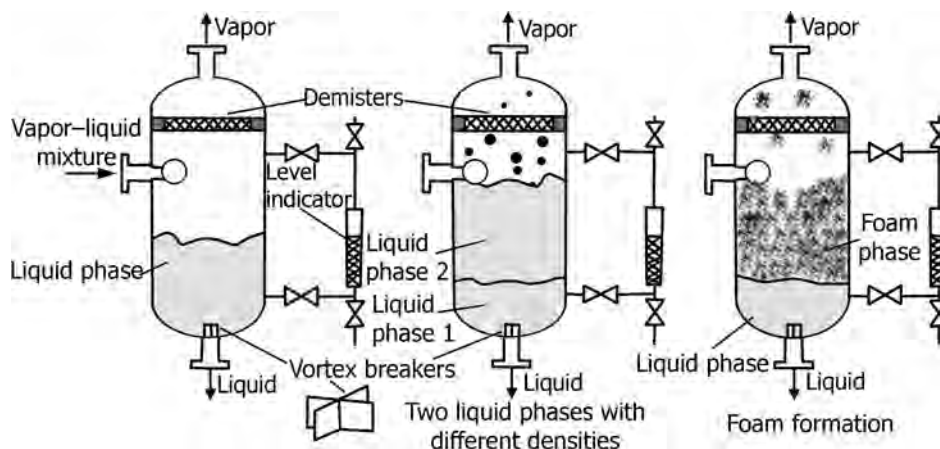

FIGURE 16.39 Vapor-liquid separator for different cases.
- Figure 16.39 illustrates the common applications of vapor–liquid separators involving a single liquid phase, two liquid phases, and a vapor/gas phase, commonly found in a knockout drum from a petroleum distillation column, in which condensate consists of a water layer, hydrocarbon layer, and gas/vapor phase. There will be situations in which foams are generated in certain processes that are to be separated in the knockout drum.